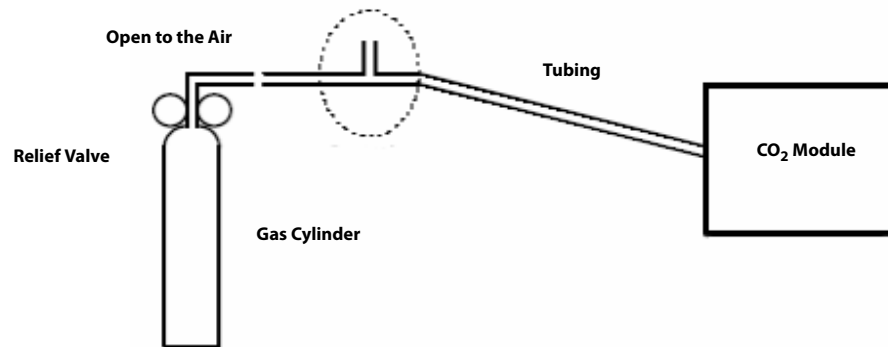

FIGURE 17-6
3. Connect the gas cylinder with the tubing using a T-connector (as shown in FIGURE 17-6). Check the airway to ensure there are no leaks.